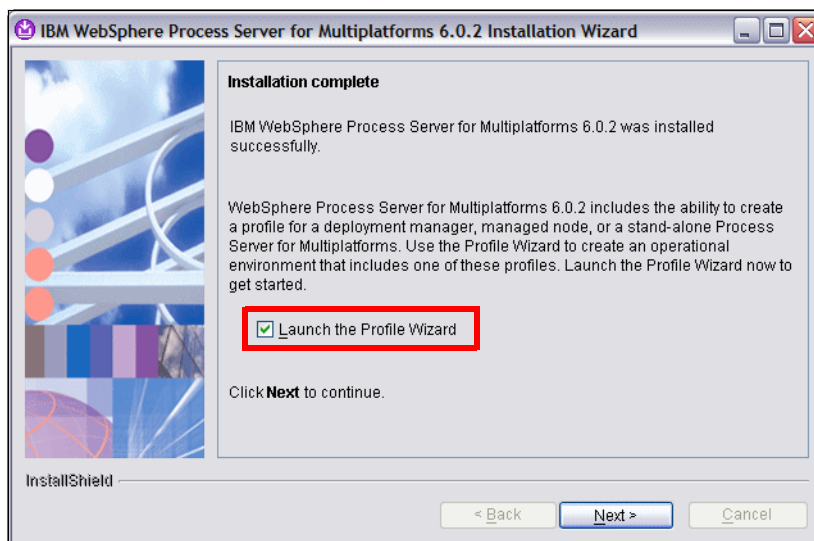

Figure A-20 WebSphere Process Server: Launch Profile Wizard
- ▶ Select *Launch the Profile Wizard* and click *Next* (Figure A-20).